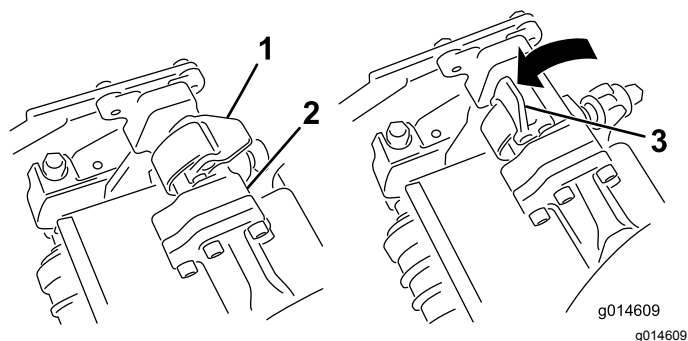
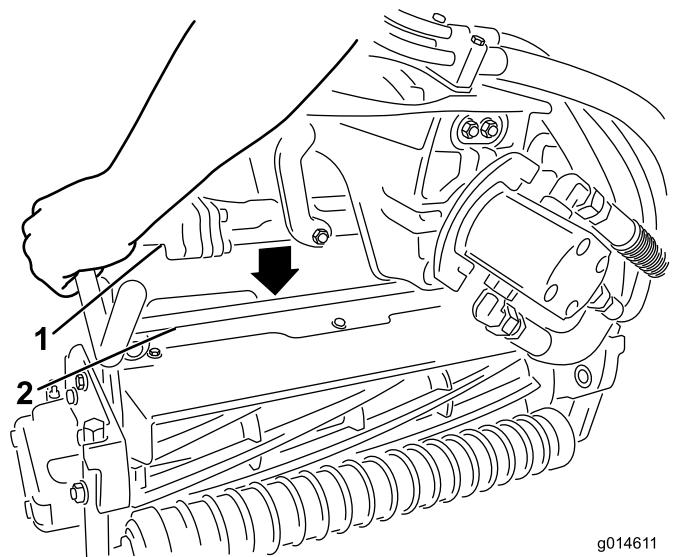

Figure 32
Figure 33
3. With the latches on the suspension-arm bar pointing up (i.e., open) (Figure 32), push the suspension arm down so that the bar fits over the bar across the top of the cutting unit (Figure 33).
4. Close the latches down and around the cutting-unit bar and lock them in place (Figure 32).
- Open the latches on the suspension-arm bar of the cutting unit you are removing (Figure 32).